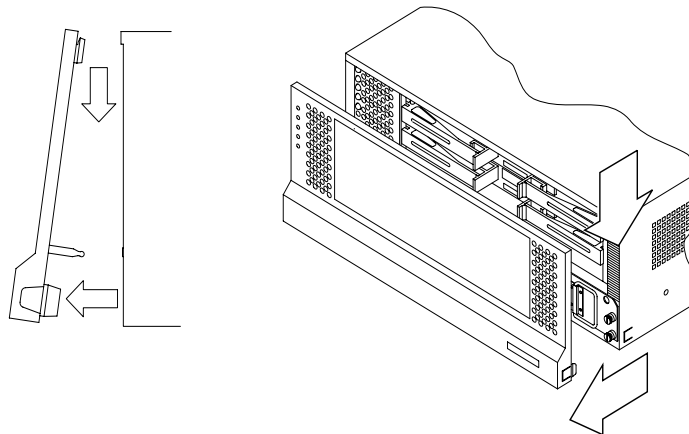

FIGURE 1-9 Removing the Front Panel
1. Remove the front panel (FIGURE 1-9).